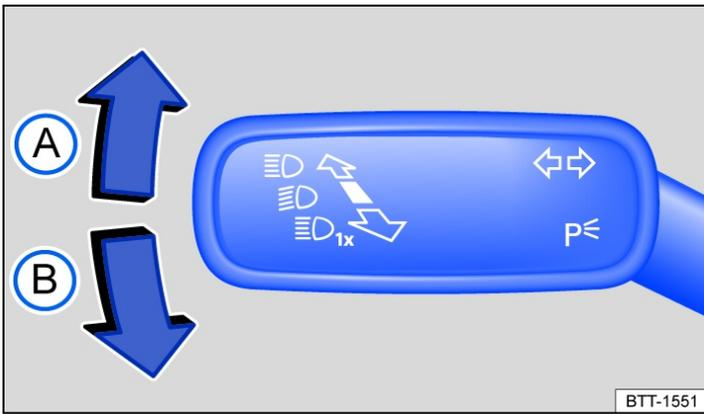

Fig. 1 On the left-hand side of the steering column: turn signal and main beam lever.
- Move the turn signal and main beam lever from the centre position to the following position → *Fig. 1*:
- (A) Right turn signal ➔.
- (B) Left turn signal ➔.